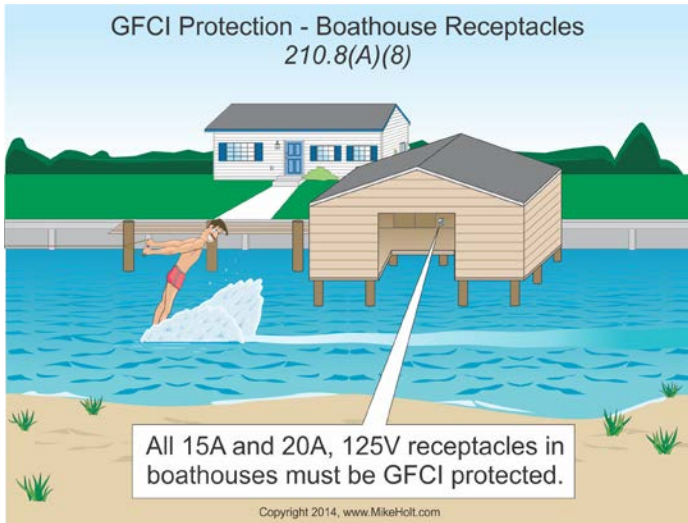

Figure 210-32
(8) Boathouses. GFCI protection is required for all 15A and 20A, 125V receptacles located in a dwelling unit boathouse. Figure 210-32